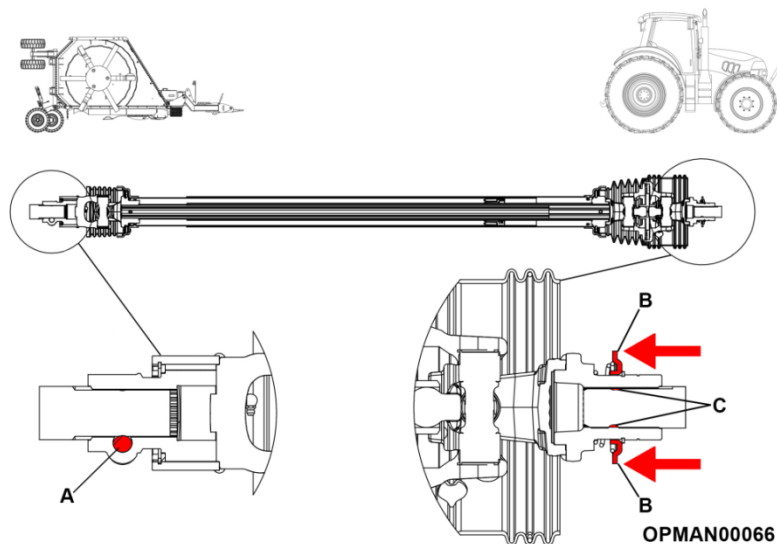

Figure 4.11 – Stubble Master Input Shaft Fitting & Removal
- 4.5.1.1 Proceed to remove the taper pin, flat washer and nut from the machine end of the input PTO shaft. See Figure 4.11.
- 4.5.1.2 Install the input PTO shaft onto the splitter gearbox lining up the slot in the splitter gearbox shaft with where the input shaft taper pin will be placed; see Figure 4.11 (A). Replace the removed taper pin, flat washer and nut and tighten to a torque of 230Nm (170 ft/lbs).
- 4.5.1.3 Pull the input shaft yoke collar back and align the grooves and splines with those of the PTO output shaft of the tractor; see Figure 4.11 (B).
- 4.5.1.4 Push the driveline yoke onto the tractor output PTO shaft, release the locking collar and position the yoke of the input shaft until the locking collar balls are seated onto the tractors output PTO shaft; see Figure 4.11 (C).
- 4.5.1.6 Pull the input shaft yoke collar back and pull back the shaft off the output splined shaft of the tractor; see Figure 4.11 (B).